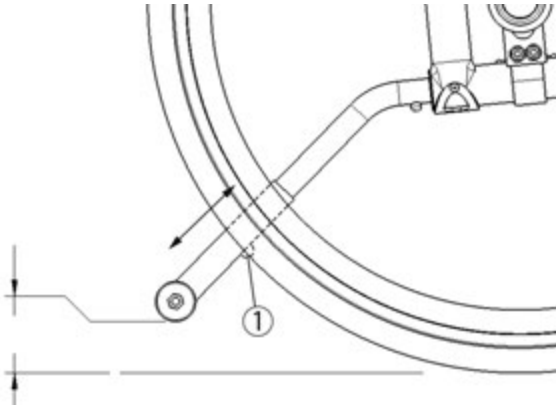

Fig. 29
- Press the push-button (1) (Fig. 29) and slide anti-tippers extensions to desired length.